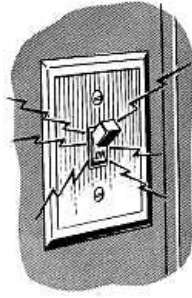

Figure 3
9. Switches not working properly (sparks fly as switch is flipped) (Figure 3)---